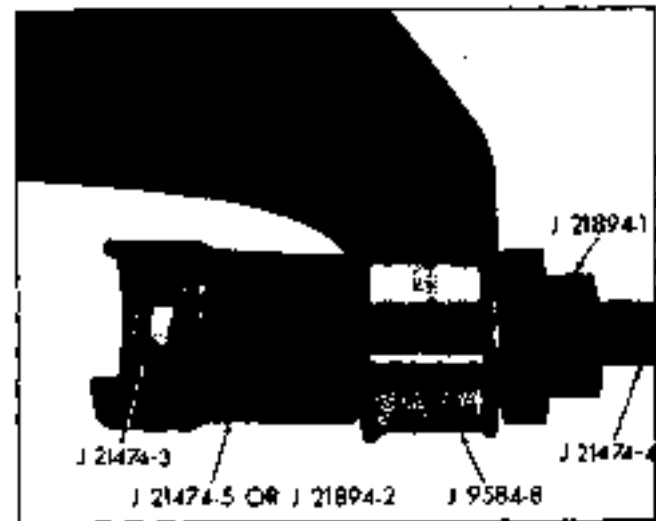

Fig. 3-19 Installing Pontiac Lower Control Arm Front Bushing or Tempest and Grand Prix Rear Bushing
1. Install bushing in lower control arm by arranging tools as shown in Fig. 3-19 and press bushing into arm.